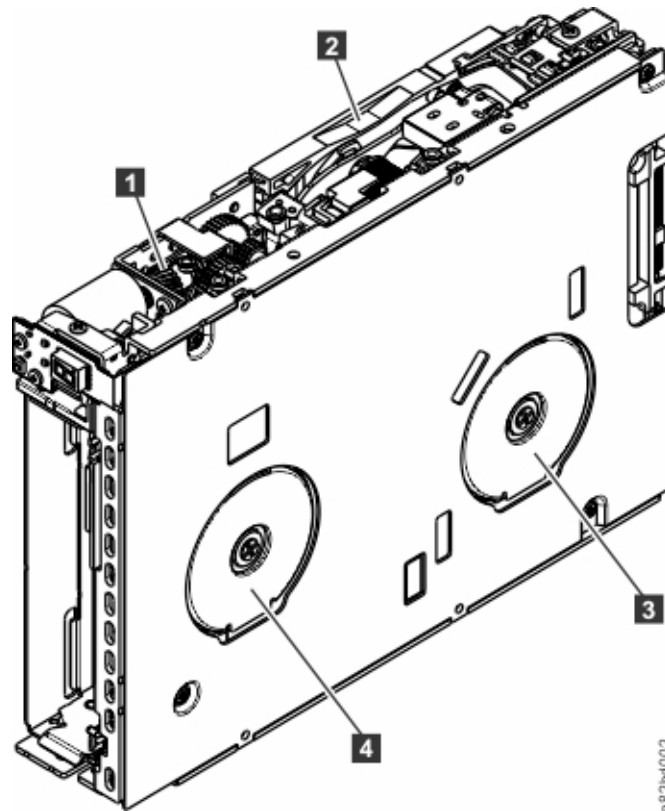

Figure 23. Rewinding tape into cartridge
6. Turn the supply reel (**4** in Figure 23 on page 85) clockwise, carefully guiding the mended portion of the tape to wind around the hub of the supply reel that is located inside the cartridge. Continue spooling into the cartridge until the tape is taut. The tape must remain within the flanges of the tape guiding rollers. Turn the supply reel (**4** in Figure 23 on page 85) 10 more turns. Ensure that you do not stretch the tape.